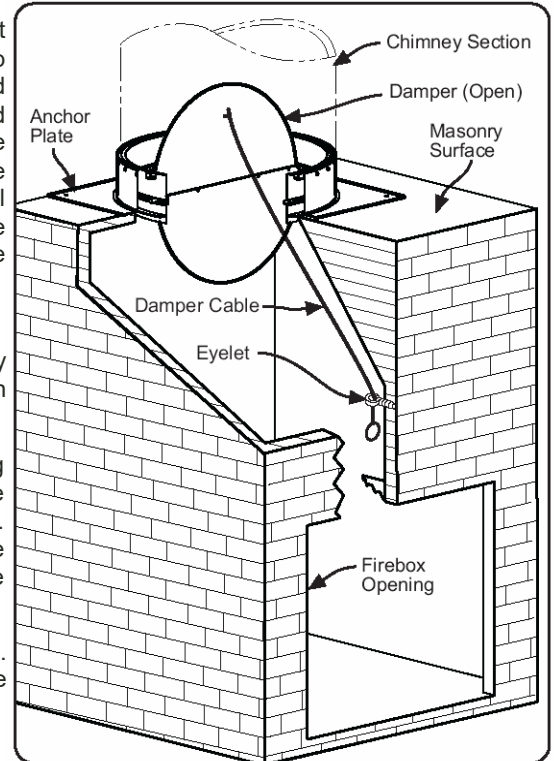

Figure 1.
1. Using the Anchor Plate with Damper as template, centered over the outlet opening, drill and anchor four 1/4" diameter bolts 2" long securely into the top of the masonry fireplace. Apply a bed of mortar approximately 3/4" in depth and 3" in width completely around the fireplace opening. Make sure the threaded ends of the bolts protrude a minimum of 1" above the bed of mortar. Ensure damper is free of obstructions and is permitted to close and open freely. See Figure 1. **NOTE:** Reference Selkirk Sheet S-4 when installing APD with Model UT/ST/GT. While the mortar is still damp, place and level the APD over the extended studs. Secure, using a washer and nut for each bolt. Check the plate for level and allow mortar to set.
2. Using Eyelet, route Damper Cable to desired location in firebox. Mount Eyelet by pre-drilling a 3/16" pilot hole, then screw Eyelet into the hole. Once mounted in place, thread Damper Cable through Eyelet opening. See Figures 1 & 2.